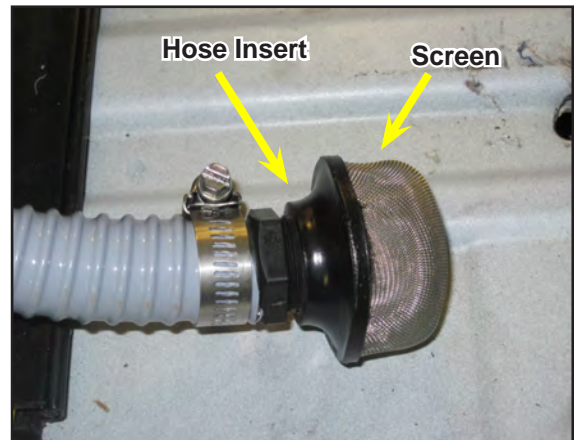

Figure 10. Install Hose Insert and Filter Screen on Longer (Passenger-Side) Hose
12. Install the hose insert and filter screen onto the end of the longer hose (see Figure 10).